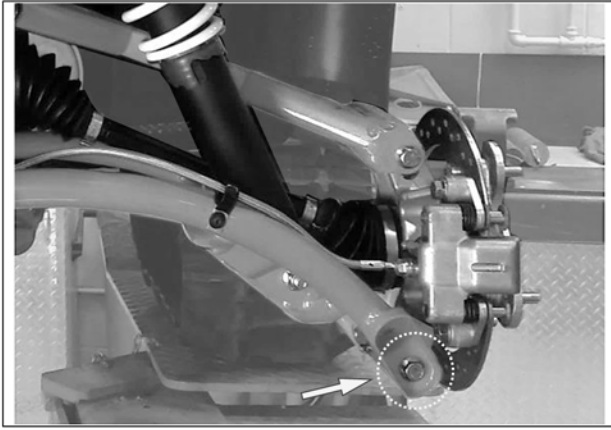

Fig. 4
4. Remove bolt securing the lower suspension arm to the wheel hub. A new M10-1.5x200 mm bolt provided in the installation kit will be used to secure together the anti-rotation anchor bracket, the lower suspension arm and the wheel hub. See Fig. 4